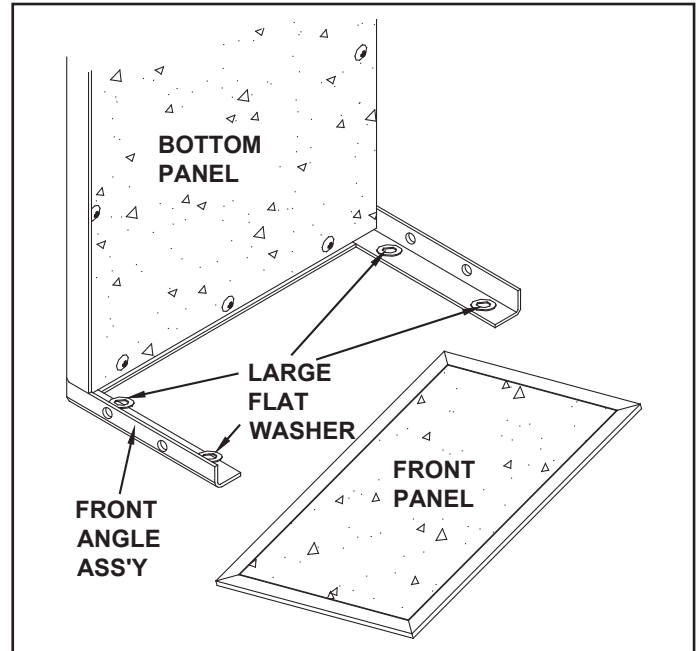

FIGURE 5
- Stand the cart on end with the front angle assembly down on the floor. Temporarily place four large flat washers (axle washers) on the inside of front angle assembly. See figure 5.